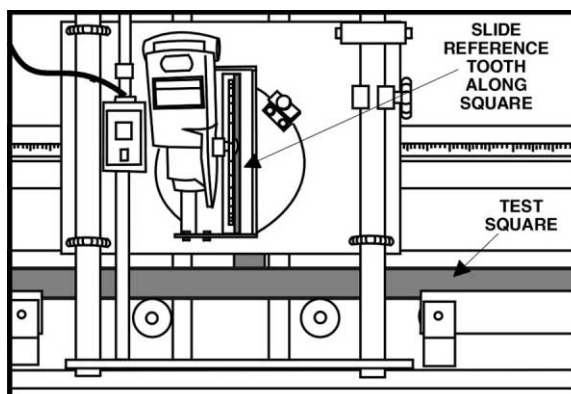

Figure 19
3. Pull the carriage down until the reference tooth of the blade just touches the vertical edge of the test square, Figure 19. Continue pulling the carriage down; if the blade does not contact the square, or the blade binds on the square, the guides are not aligned properly.